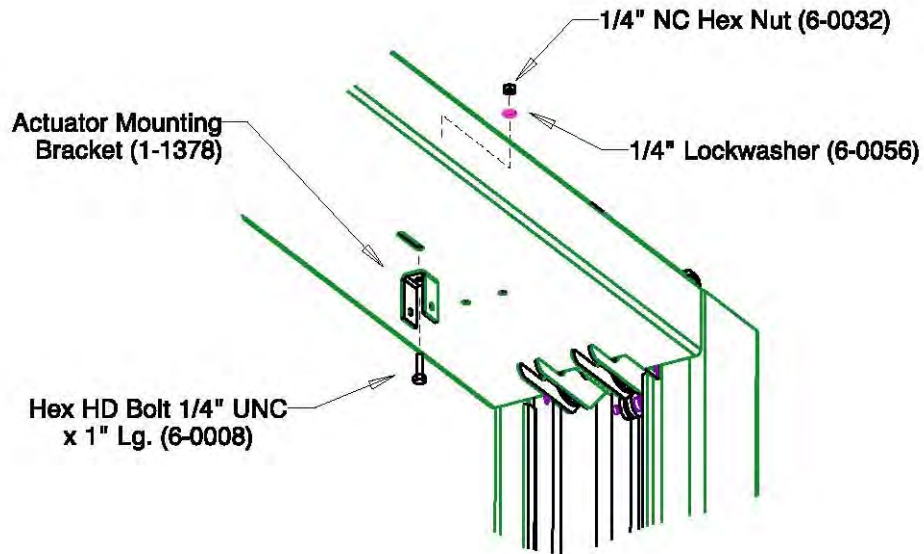

Figure 7: Actuator Mounting Bracket
1. Attach the Actuator Mounting Bracket to the crossmember using one (1) ¼"-NC x 1" lg. hex head bolt, one (1) ¼"ID lockwasher, and one (1) ¼" NC hex nut. The mounting bracket should be installed in one of center slots at either end of the crossmember. (**Figure 7**)